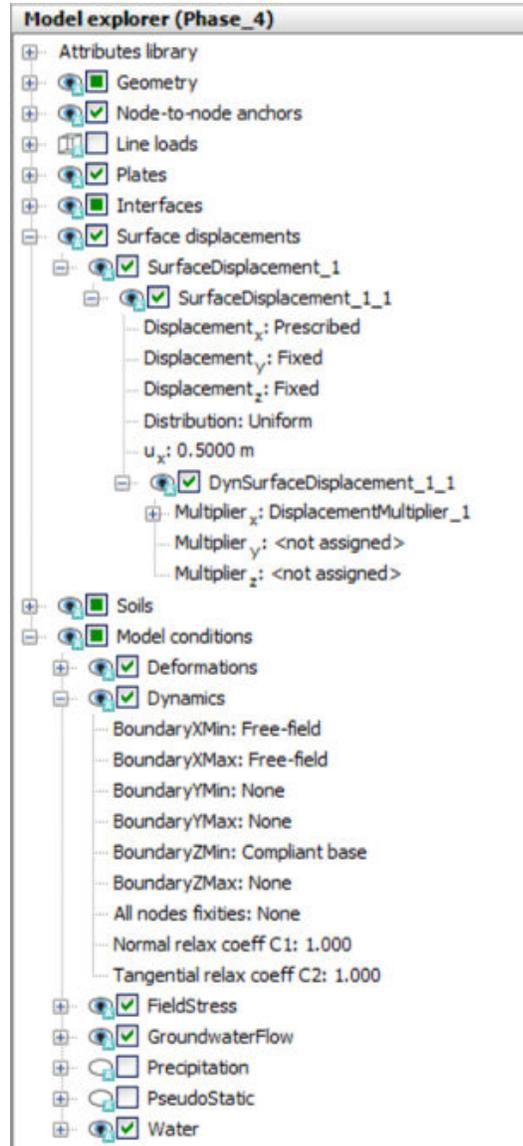

Figure 138: Boundary conditions for dynamics calculations (Phase_4)
- Expand the **Dynamics** subtree. Set the **Free-field** option for the boundaries in the x direction. The boundaries in the y direction are already set to **None**. Set the boundary Zmin to **Compliant base** (see Figure 138 (on page 170)).